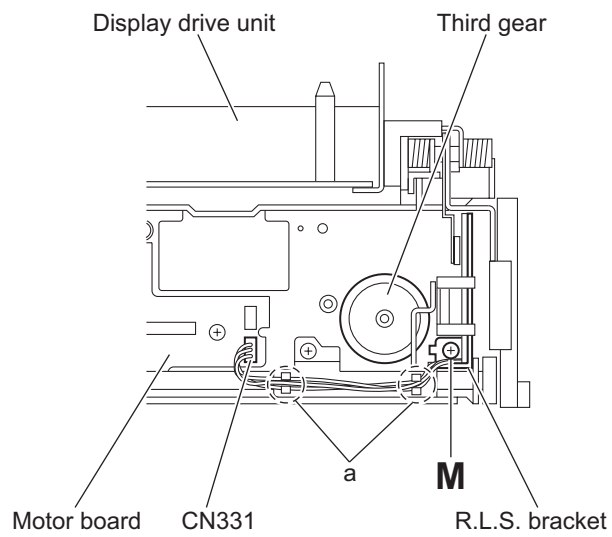

Fig.22
- (10) Pull the third gear in an upward direction. (See Fig.22.)
- (11) From the top side of the display drive unit, disconnect the wire from the connector CN331 on the motor board. (See Fig.22.)
- (12) Remove the screw **M** attaching the R.L.S. bracket. (See Fig.22.)
- (13) Take out the R.L.S. bracket with other parts from the display drive unit. (See Fig.22.)
When attaching the R.L.S. bracket, pass the wire through the sections **a** on the wire holder as before. (See Fig.22.)